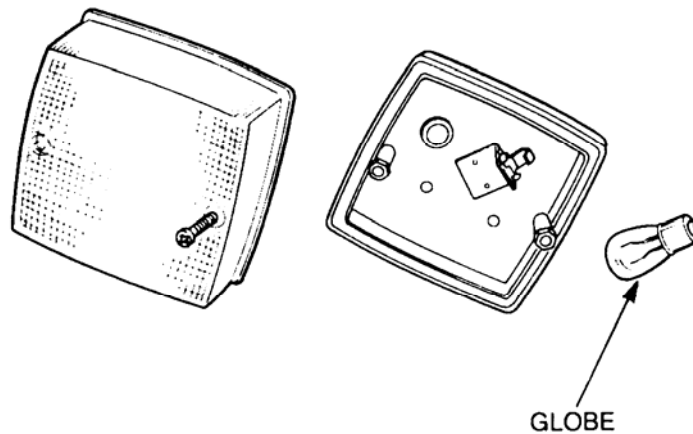

Figure 7 Interior Lamps Exploded View
- a. Remove the two screws securing the lens (refer Figure 7).